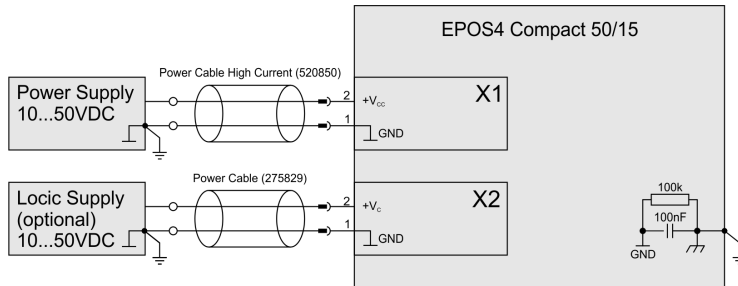

Figure 5-63 Power & logic supply
**Power supply & optional logic supply** ..... Figure 5-63